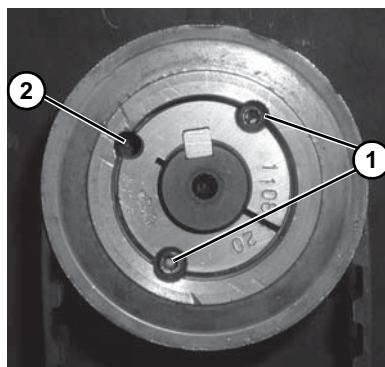

Figure 18
3. Loosen taper-lock screws (**Figure 18, item 1**) and remove drive pulley: Insert one (1) of taper lock screws in remaining hole (**Figure 18, item 2**). Tighten screw until pulley is loose.